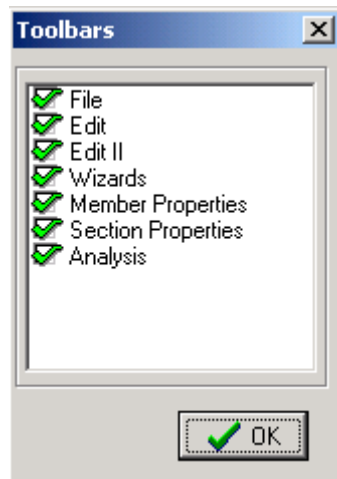

Figure 84 The "Toolbars" dialogue box.
1. Choose the View > Toolbars command. The dialogue box shown in figure 84 will appear. You may also right-click on the grey margin of the toolbars.